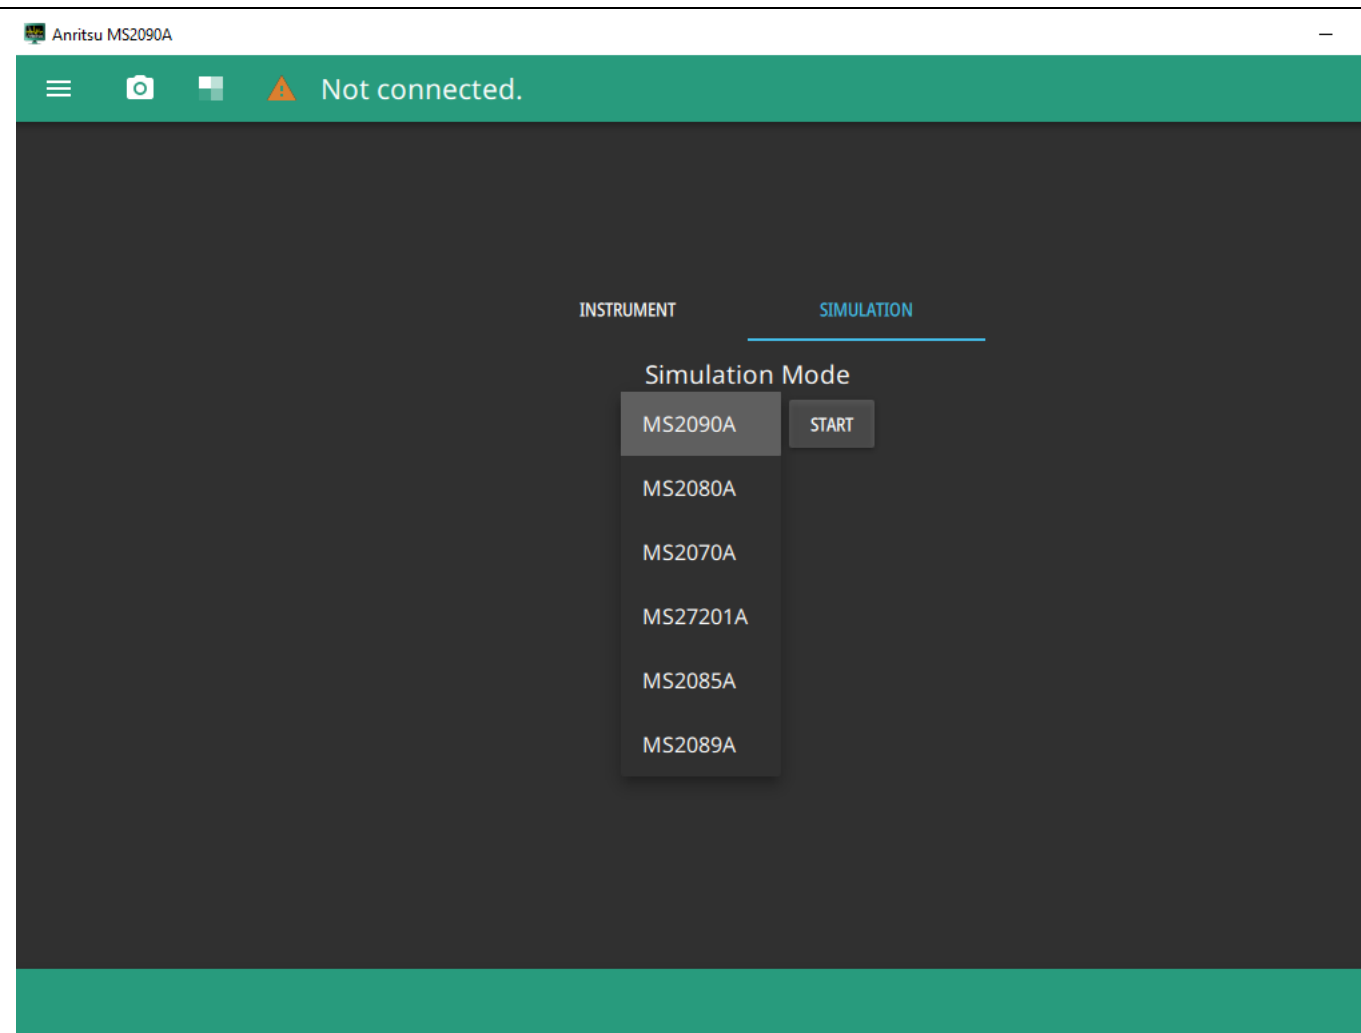

Figure C-3. Connecting to Simulation Mode
4. Alternatively, to get connected to simulation mode click SIMULATION tab. See Figure C-3.